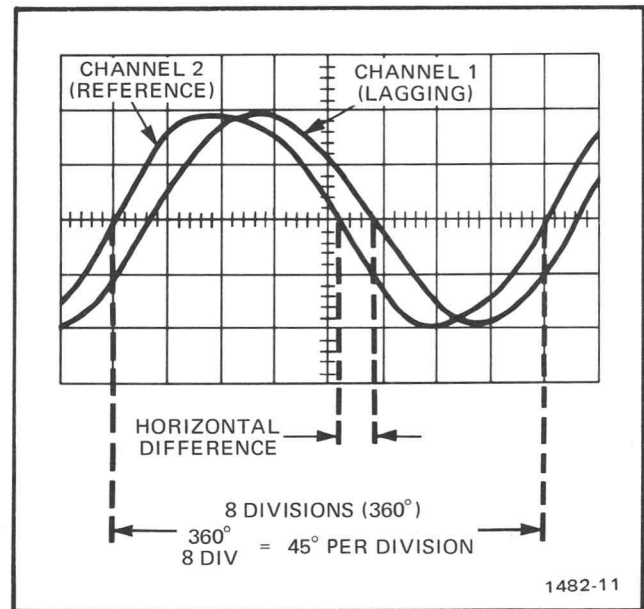

Fig. 8. Measuring phase difference.
5. Adjust the horizontal POS control to move the 10% point of the waveform to the first graticule line. For example, with a five-division display, as shown in Fig. 8, the 10% point is 0.5 division up from the start of the rising portion.
4. Turn the VAR HORIZ MAG control until one cycle of the reference signal (CH 2) occupies exactly 8 divisions horizontally. (See Fig. 8.) Each division now represents 45° of the displayed 360° (eight divisions).